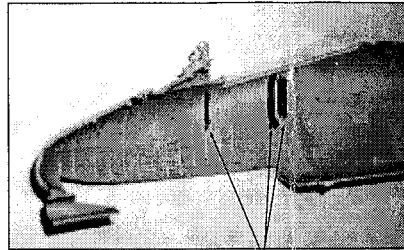

Figure 1
- Remove the cockpit tub mounting lugs molded on the Trumpeter fuselage sides per Figure 1. Be sure to clear away the entire rib all the way up to the underside of the cockpit sill.